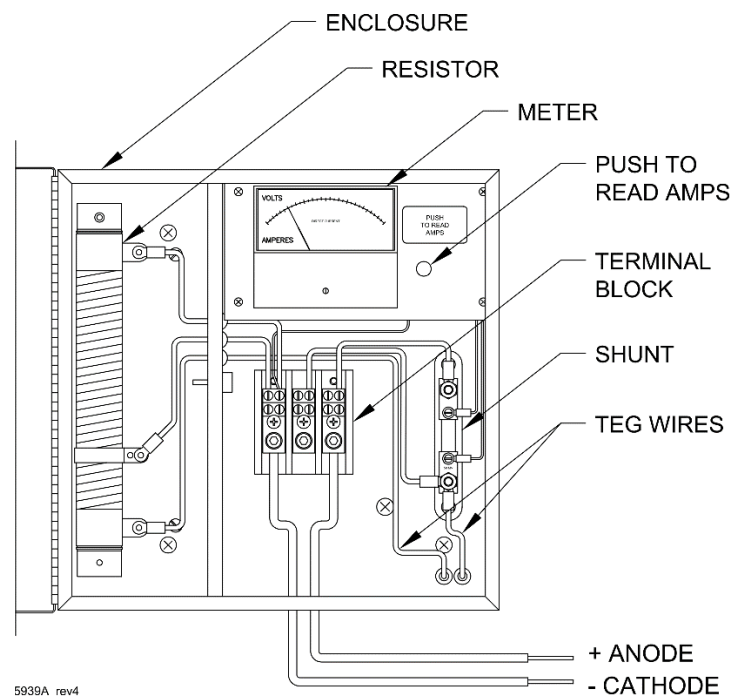

Figure 8 – CP Interface System Assembly
Low voltages due to overloads, lack of fuel, or a faulty generator, are detected by a voltage sensing circuit incorporated into the voltage limiter. When a low voltage condition is detected, the Voltage Sensing Relay (VSR) with connections NC (normally closed), NO (normally open) and COM (common) can be used to trigger an alarm or other processes. When the generator is above the trip voltage, the connection between NO and COM is closed. If the generator is below the trip voltage, then the connection between NO and COM is open, and the connection between NC and COM is closed. The trip voltage is adjusted by the pot labeled "VSR Adjust" on the VSR board as shown in Figure 8.
An optional cathodic protection interface system is available for use with the model 5220 TEG. It provides for adjustment and monitoring of power to a Cathodic Protection (CP) load. The anode and cathode cables enter the cabinet at the bottom and connect directly to a heavy-duty terminal block. A 0 to 1 Ω 300-watt variable resistor is provided for adjusting the output power applied to the CP system. The main parts of the CP interface system are shown in Figure 8.